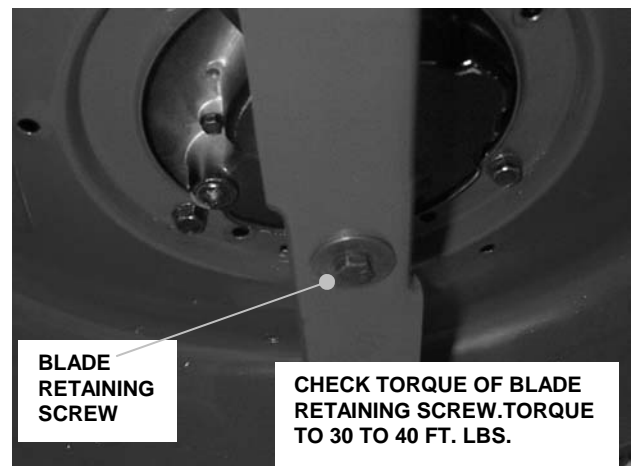

FIGURE 3.2
2. Tilt mower up on its rear wheels for access to the blade cap screw. Do not tilt mower with spark plug or carburetor down. See Figure 3.2.
3. Check torque of blade retaining cap screw. Recommended torque should be 30 to 40 ft. lbs. See Figure 3.2.
6. Reinstall blade. Refer to Figure 3.2. Check torque of blade retaining cap screw. Recommended torque should be 30 to 40 ft. lbs.